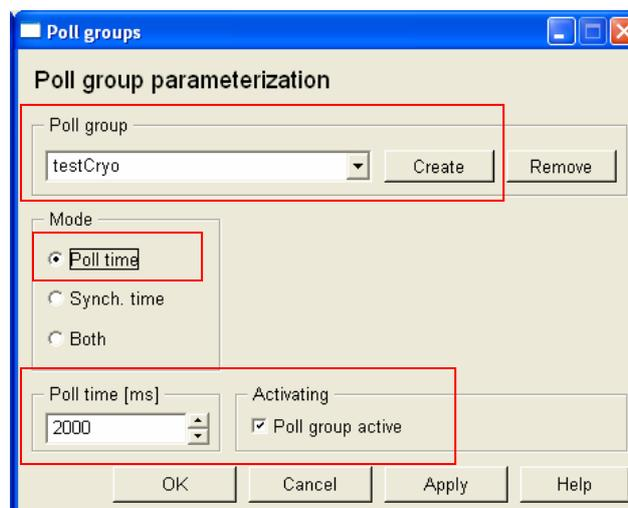

Figure 10 - Poll group
- **Poll group:** This parameter specifies the polling time rate in milliseconds. Select existing polling groups, otherwise you have to create them with the specific polling parameters with a dedicated panel. The panel is opened by clicking on the *poll groups* button (Figure 10). Set the Mode to Poll time, specify the rate in milliseconds you want to have and finally set "poll group active".